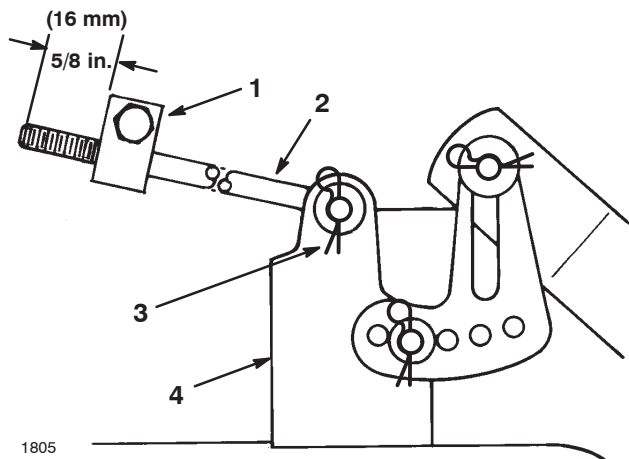

Figure 48
- 5. Measure the length of the rod extending out of the front of the adjusting block on the sides of the chassis (Fig. 48).
Note: If the rod length is not 5/8 in. (16 mm), remove the hairpin cotter and washer from the end of the rod (Fig. 48) and turn the rod until you obtain the 5/8 in. (16 mm) dimension.